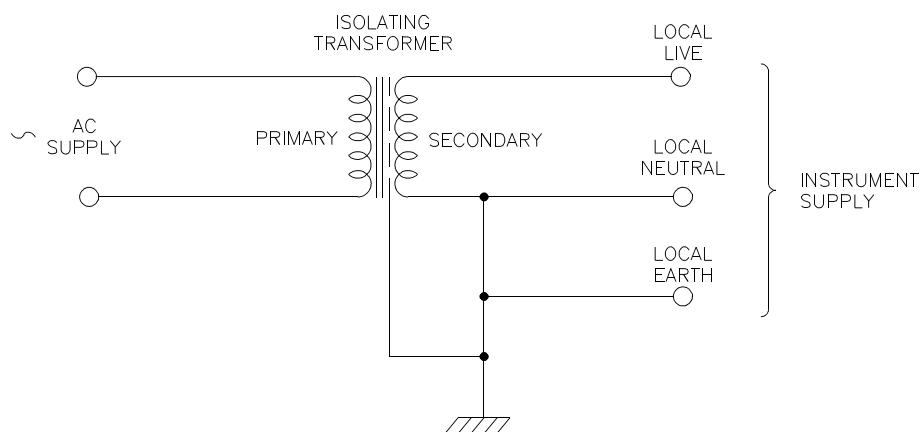

Figure 3.8 Split Supply
1. If a split supply (eg 55V-0-55V) is used, or a supply that is not referenced to earth (ground), a suitable isolating transformer should be fitted and the secondary winding suitably earthed. See Figure 3.8.